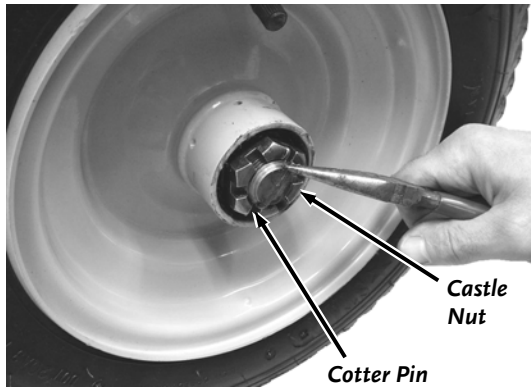

Figure 36
3. Straighten the ends of the Cotter Pin with Needle Nose Pliers so the Cotter Pin can be pulled from the hole in the Axle (**Figure 36**).
7. Screw the Castle Nut onto the Axle and tighten it with an Adjustable Wrench to seat the Bearings (**Figure 36**).